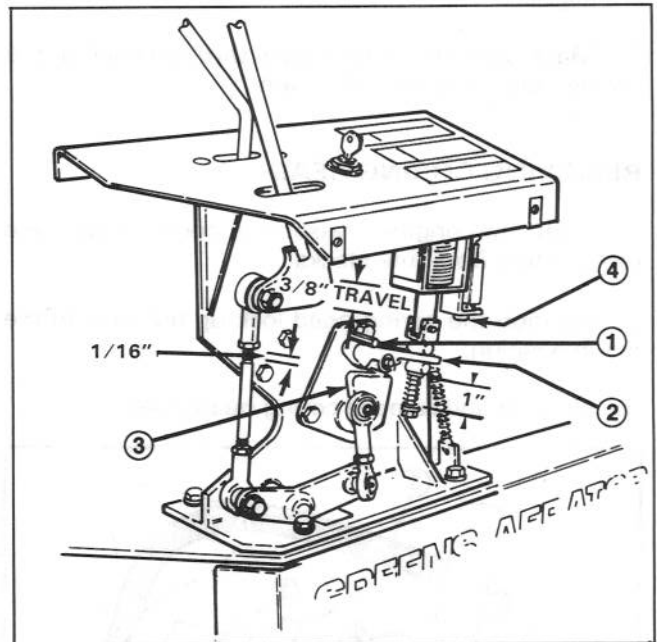

Figure 52
3. Reset circuit breaker button (Fig. 52).
4. Measure the travel of the solenoid spool from the ENGAGED to the DISENGAGED position (Fig. 52). Do so by activating the Interlock Switch located on the handle bar to move the spool.
7. Check/adjust the "installed" length of the Solenoid Spring. Measure the distance between the flat washers on the ends of the spring. Adjust the length to be 1 inch by using the jam nuts at the bottom of the assembly (Fig. 52).
8. Move the Clutch Handle toward the fully ENGAGED position. As this handle approaches the extent of its travel, you will notice the *top most corner of the Cam* is very close to the *bottom tip of the Latch* (Fig. 52). Move the control handle until these two points are closest to one another. This gap must be 1/16 inch or less.